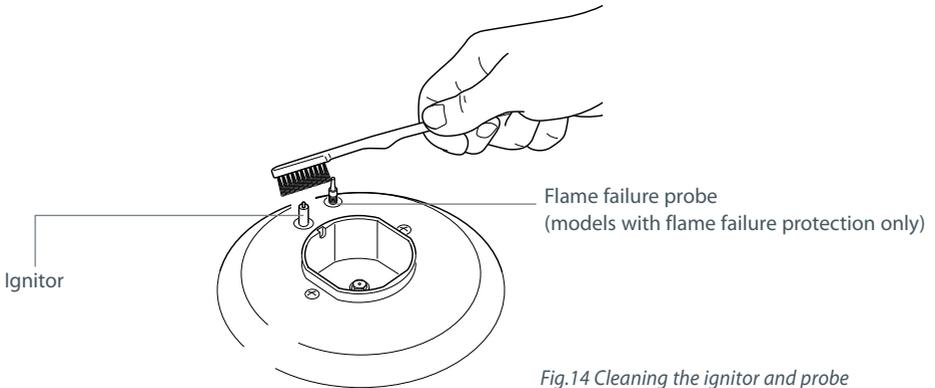

Fig.14 Cleaning the ignitor and probe
- the igniters are sparking. If they are not sparking, they may be dirty or wet. Clean them with a toothbrush and methylated spirits, as shown in Fig. 14 below. See 'Care and cleaning' for instructions on removing and replacing the burner parts.